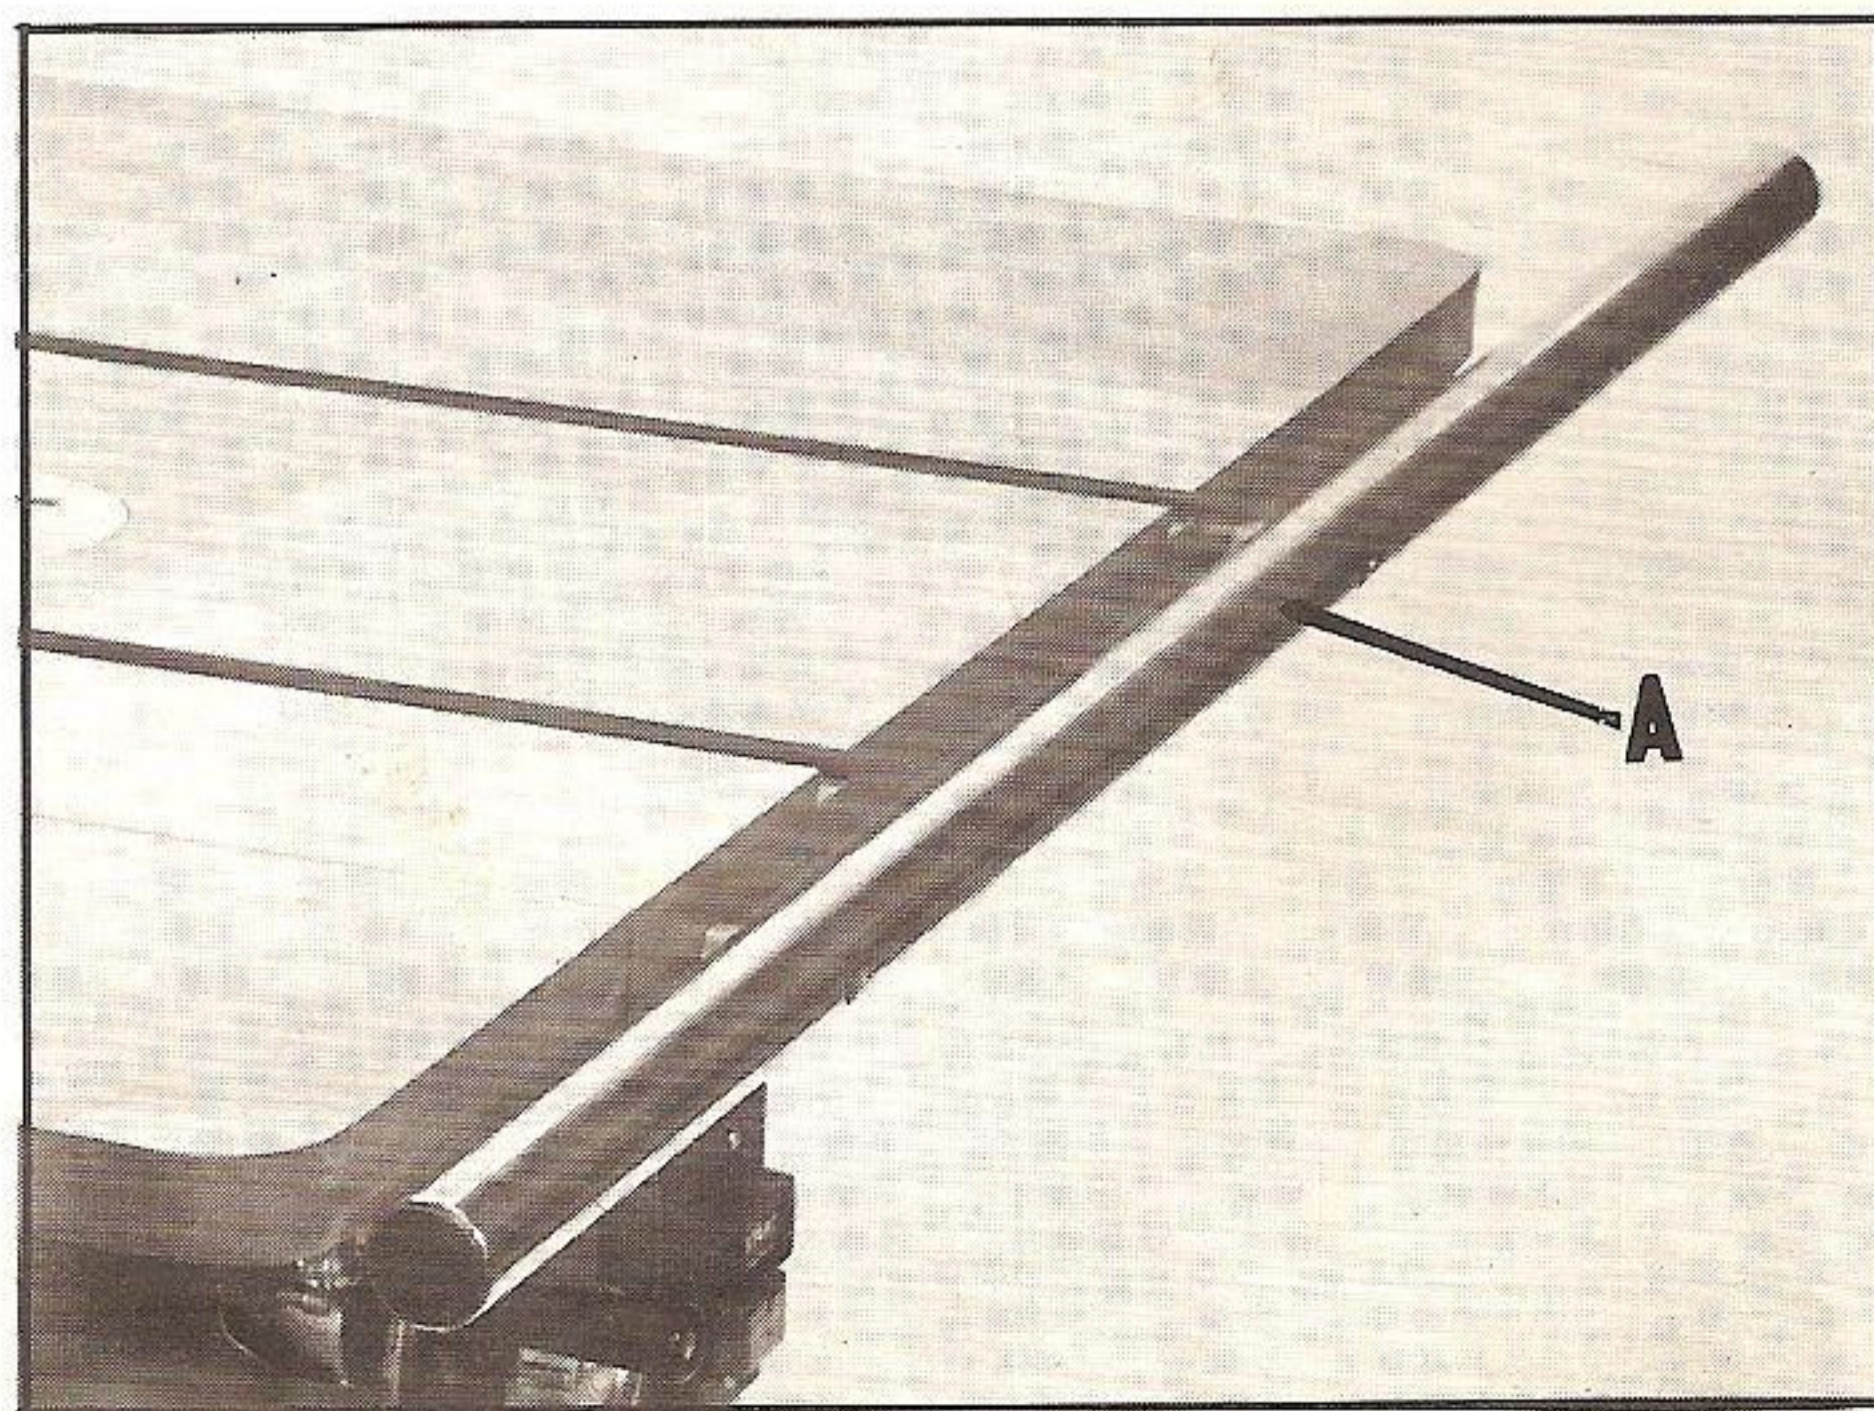

Fig. 6
1. The guide rail (A) with the graduations is to be assembled to the front of the table with the graduations up, as shown in Fig. 6.